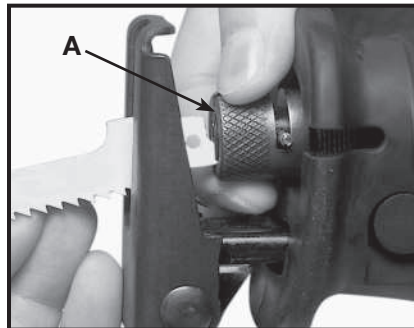

Fig. 7
3. To open the blade clamp: rotate and hold the blade release collar (A) Fig. 7, counterclockwise (as viewed from the front of the saw).